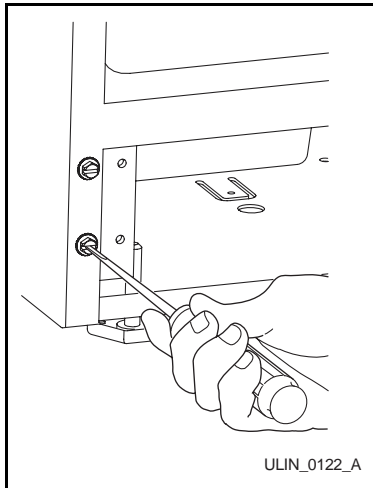

Figure 24
- Remove screws on opposite side of cabinet (Figure 24). Note that there may be a nut behind one or both screws on either side.